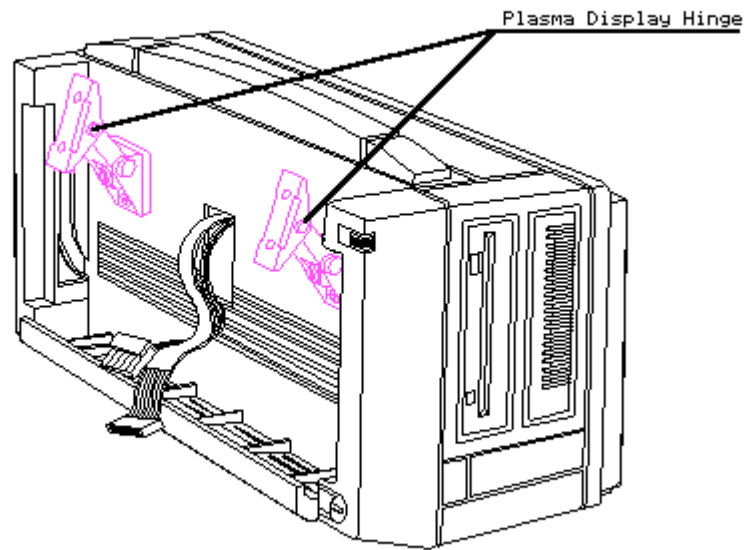

Figure 8-94. Plasma Display Hinge Location
9. Locate the plasma display hinges shown in Figure 8-94.